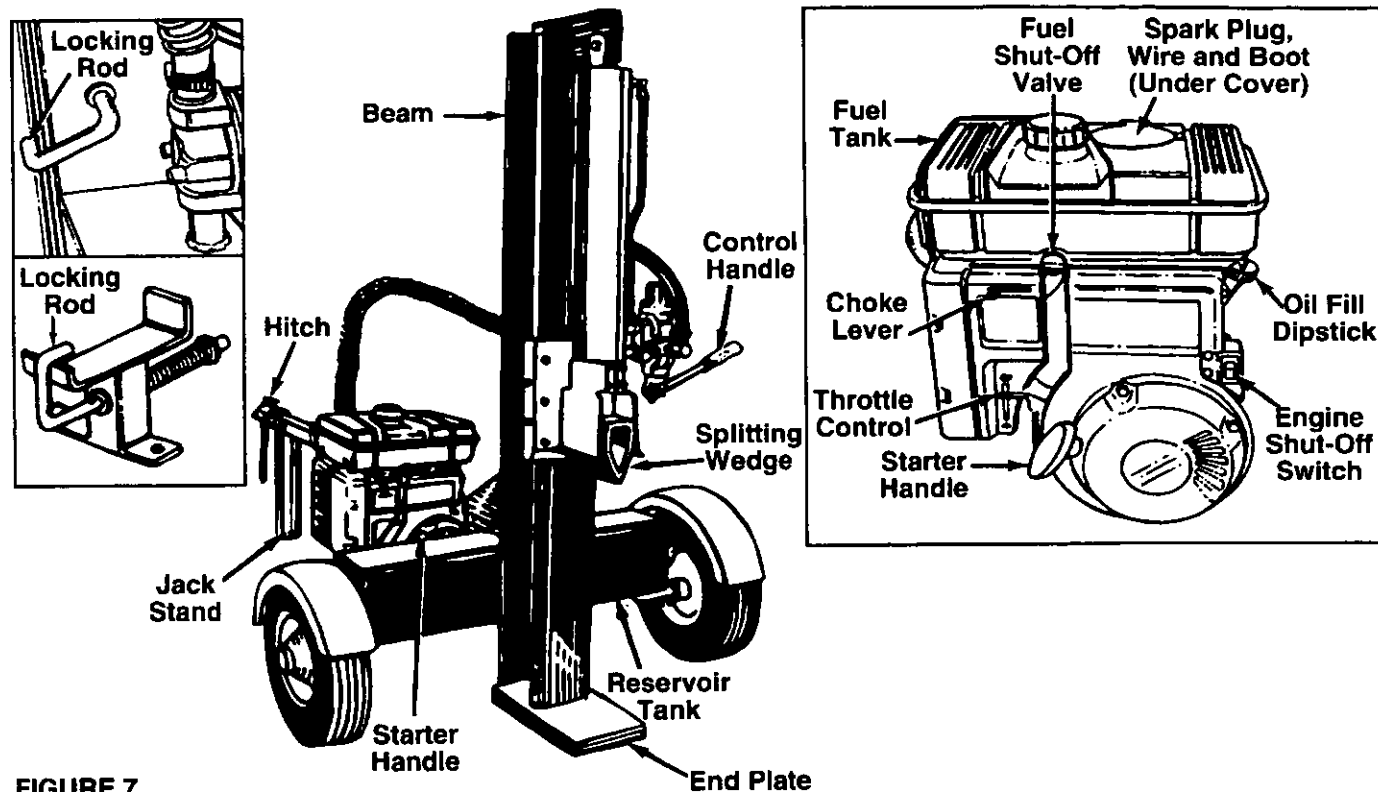

FIGURE 7.
OPERATING CONTROLS (See figure 7)
- Move engine shut-off switch to OFF position. See figure 7.
- Place log splitter on a firm, level surface. To raise the beam for vertical operation, pull the locking rod on the tongue out and pivot it down to release the beam. Place the beam in the vertical position. Secure it with the locking rod on the reservoir tank assembly. See figure 7.
- Place log splitter on a firm, level surface. For vertical operation, pull the locking rod out and pivot it down to release the beam. Place the beam in the vertical position. See figure 7.